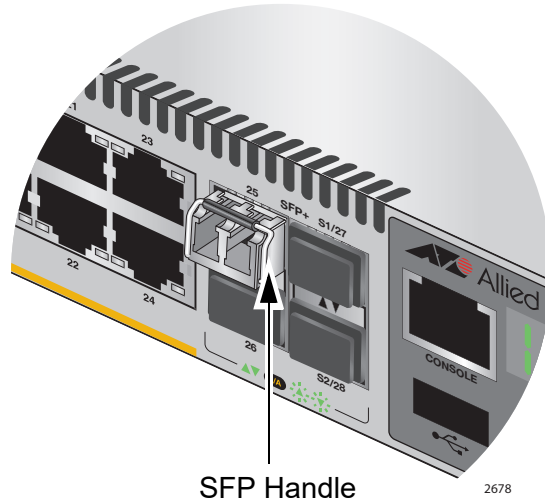

Figure 72. Positioning the SFP or SFP+ Handle in the Upright Position
6. Verify the position of the handle on the SFP transceiver. If the transceiver is in a top slot, the handle should be in the upright position, as shown in Figure 72 on page 117. If the transceiver is in a bottom slot, the handle should be in the down position.